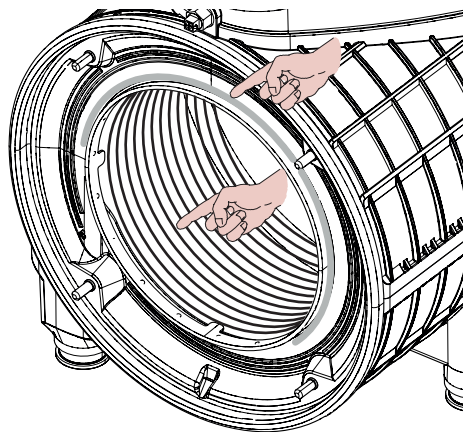

Figure 9.14
- The silicon gasket on the front panel of the combustion chamber Figure 9.14 must be changed if it becomes worn.